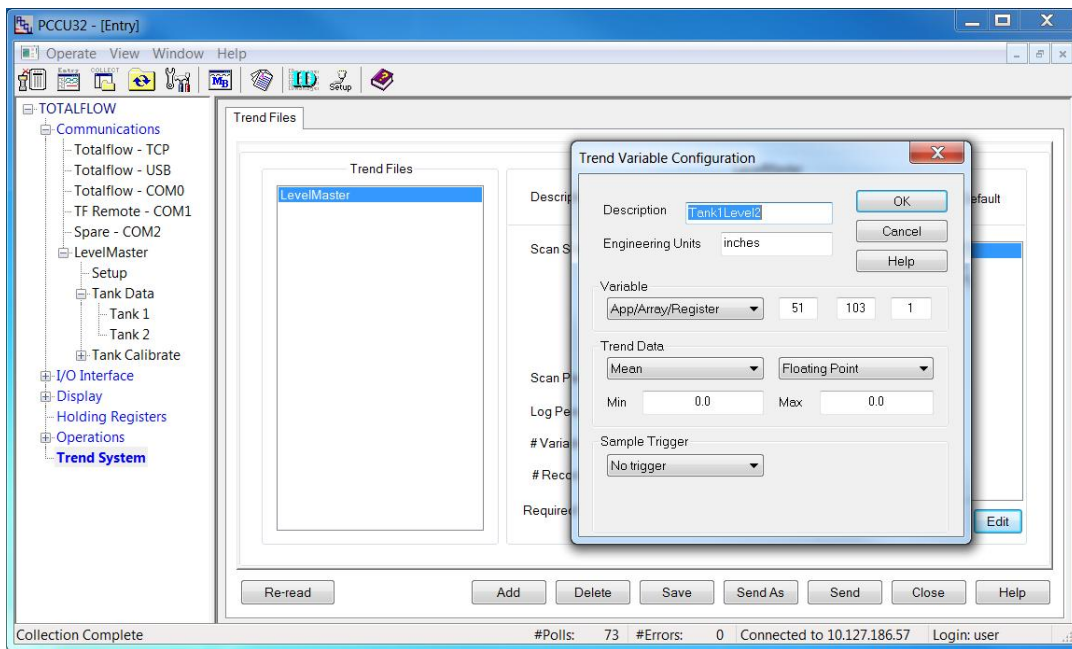

Figure 52: Adding a variable (measurement) to trend
7. At the Trend Variable Configuration Window (Figure 52), type the desired variable parameters and register address determined in step 2 above, and click **OK**. The variable name and its units (if defined) are listed.